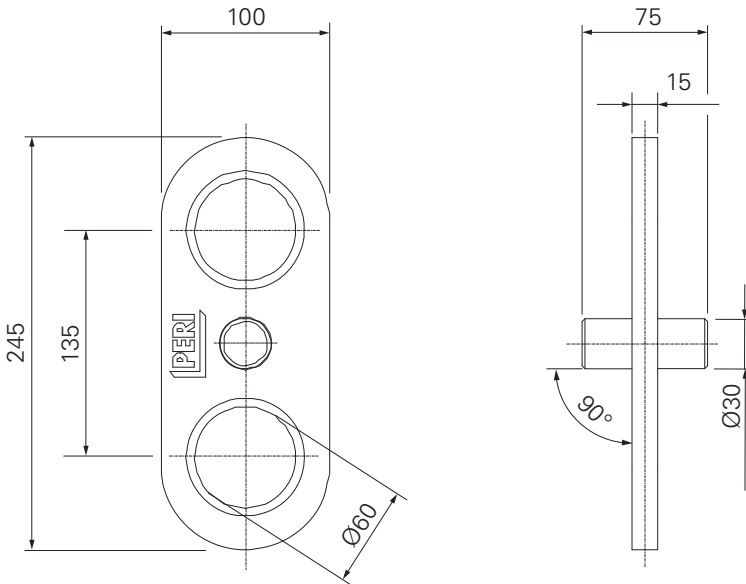

Fig. 2
- The Crane Eye BR-2 2.5 t may no longer be used if there is a geometric deviation of more than 3% of the original material diameter. (Fig. 2)